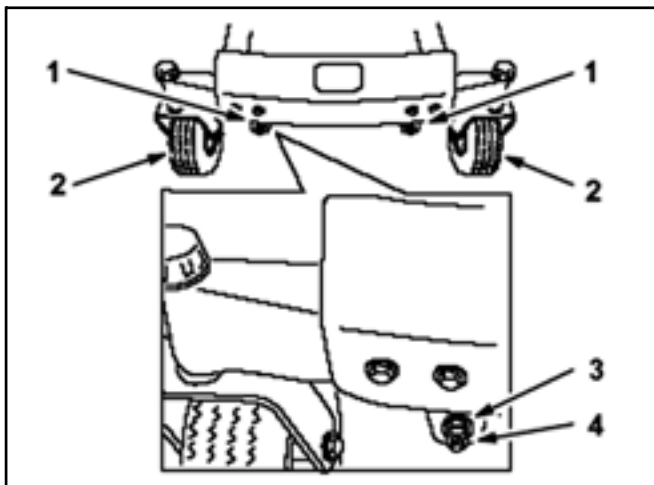

Figure 107
10. To adjust the front-to-rear blade slope, remove the locknuts and then rotate the adjustment nuts in the front of the mower (Figure 107).
- After adjusting both adjustment nuts evenly, check the front-to-rear slope again. Continue adjusting the nuts until the front blade tip is 1/16–5/16 inch (1.6–7.9 mm) lower than the rear blade tip (Figure 107).
**Note:** After adjusting the adjustment nuts, make sure there is **no slack** in either support rod (Figure 109). Tighten either one to remove the slack (Figure 107).